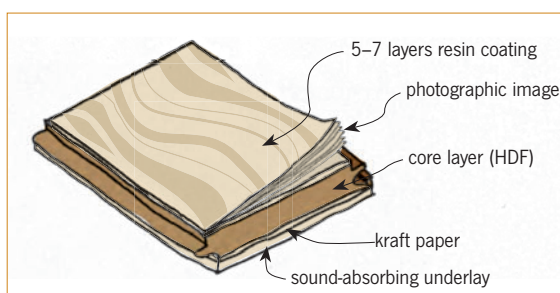

Figure 3: Laminated flooring.
- 4.2.1** Laminated flooring (Figure 3) typically comprises: